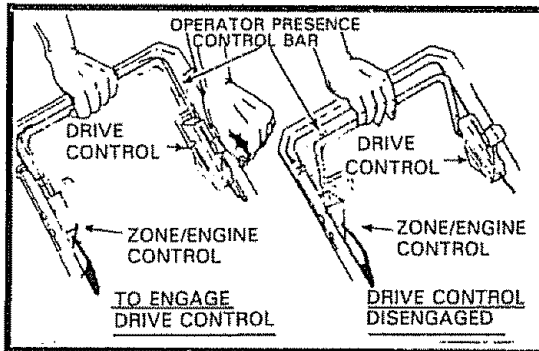

FIG. 6
- Self-propelling is controlled by holding the operator presence control bar down to the handle and pushing the drive control lever forward until it clicks; then release the lever (See Fig. 6).